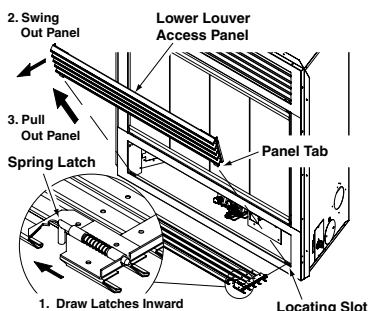

Figure 1 - Removing Lower Louver Access Panel
1. With your index fingers locate the left and right spring latches found just under the top louver and draw them inward to release the pins holding the panel on the side face (see **Figure 1**).